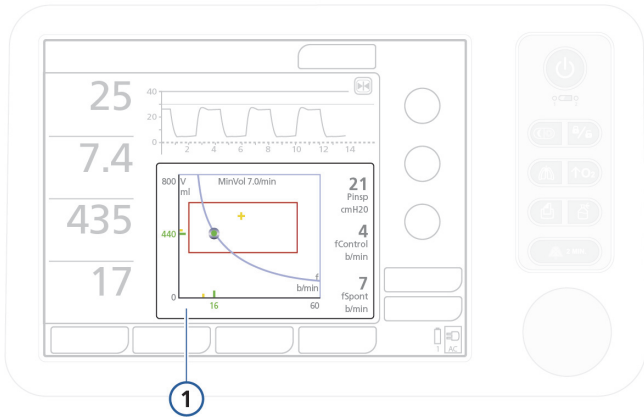

Figure 7-8. ASV target graphics window (1)
- The ASV target graphic is displayed (Figure 7-8).